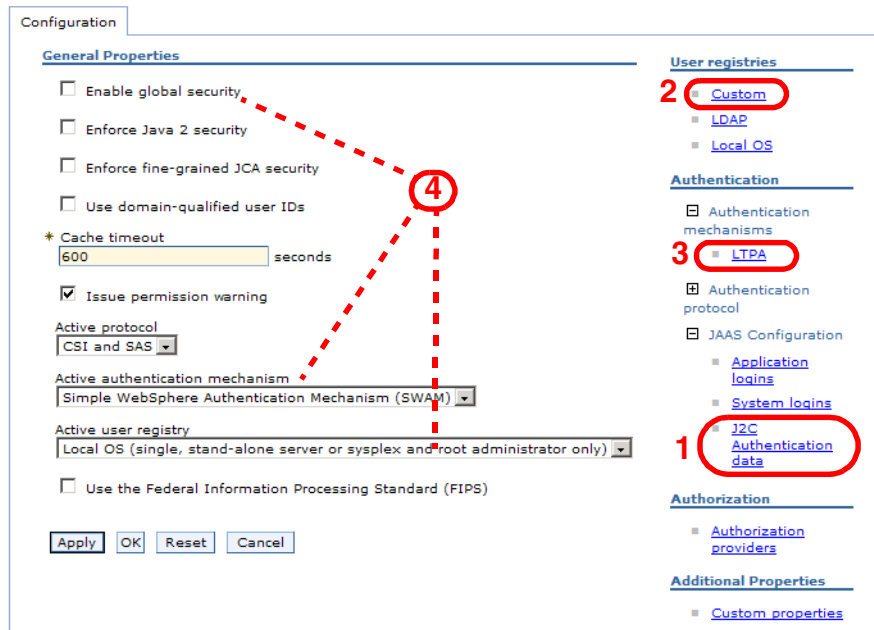

Figure 11-11 Global security: initial
- ▶ Expand *Security* → *Global Security* (Figure 11-11).